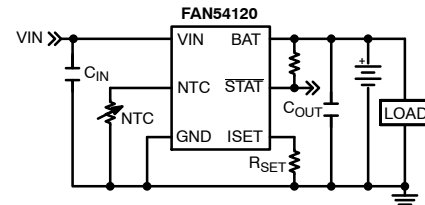

Figure 1. Typical Application
NOTE: The Recommended Operating Conditions table defines the conditions for actual device operation using the circuit of Figure 1, with the Recommended External Components shown in Table 2. Recommended operating conditions are specified to ensure optimal performance to the data sheet specifications. On Semiconductor does not recommend exceeding them or designing to the Absolute Maximum Ratings.
**Table 7. ELECTRICAL CHARACTERISTICS** (Unless otherwise specified, circuit of Figure 1 with VIN = 5.0 V, VFLOAT = 4.2 V, VBAT = 3.9 V, RSET = 1.0 kΩ, over recommended TA operating temperature range. Typical values are at 25°C.)
**Table 7. ELECTRICAL CHARACTERISTICS** (Unless otherwise specified, circuit of Figure 1 with  $V_{IN} = 5.0\text{ V}$ ,  $V_{FLOAT} = 4.2\text{ V}$ ,  $V_{BAT} = 3.9\text{ V}$ ,  $R_{SET} = 1.0\text{ k}\Omega$ , over recommended  $T_A$  operating temperature range. Typical values are at  $25^\circ\text{C}$ .) (continued)